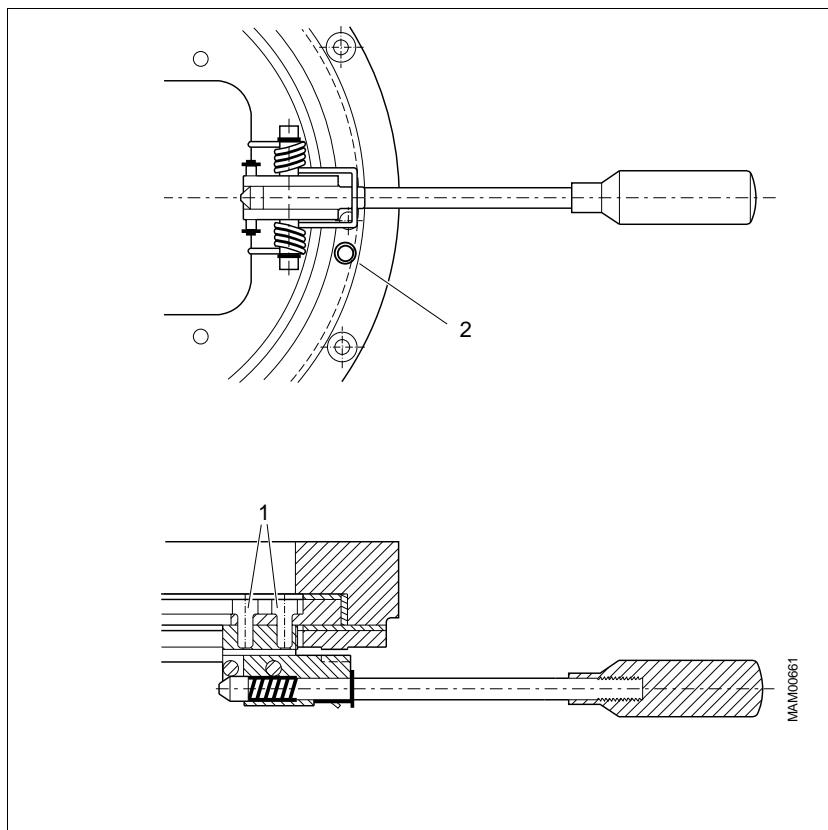

Fig. 4 Locking lever, view from underneath and a section
9. Loosen the rotation stop screw (2/Fig. 4). Then turn the object table arm further clockwise to make the two screws accessible.
10. Loosen the screws for the holder (1/Fig. 4) (this screws are later to be replaced by new screws).